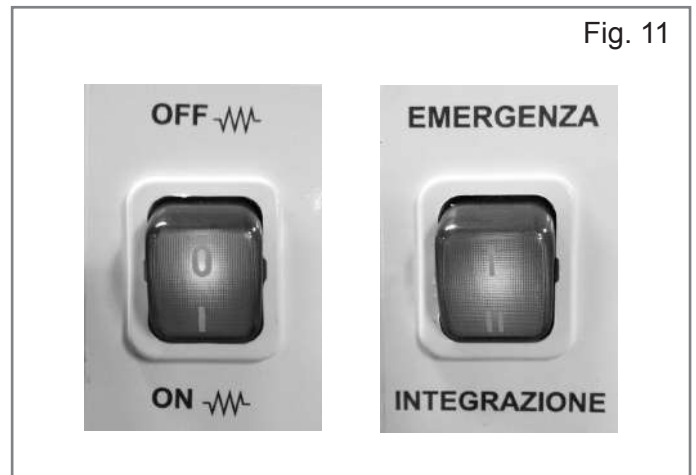

Fig. 11
A) Heat pump only operation (fig. 11)
B) Resistance heat pump operation (fig. 11)
Resistance only operation (fig. 11)